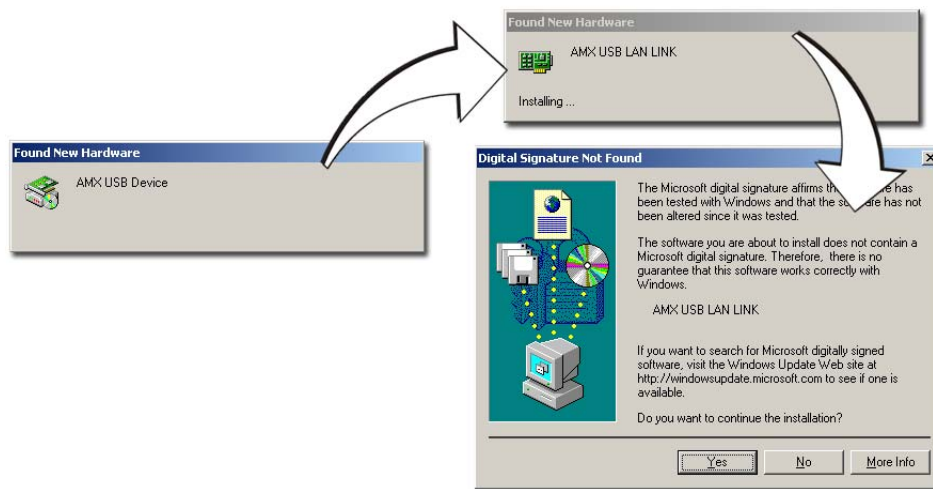

FIG. 53 USB driver installation popup window
8. **ONLY AFTER** the unit displays the first panel page, **THEN** insert the mini-USB connector into the Program Port on the panel. It may take a minute for the panel to detect the new connection and send a signal to the PC (indicated by a green System Connection icon). If this is your first time installing the USB driver, a USB driver installation popup window (FIG. 53) appears on the PC.